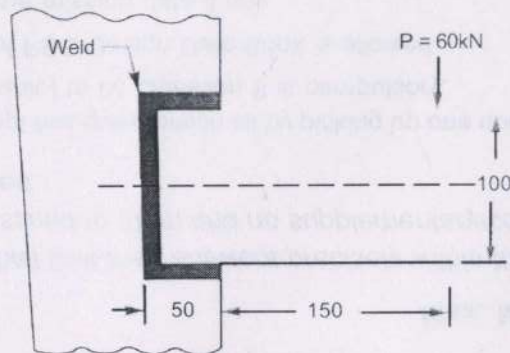

Fig. 4 (Dimensions in mm)
- (b) A rectangular steel plate is welded as a cantilever to a vertical column and supports, a single concentrated load  $P$ , as shown in Fig. 4. Determine the weld size if shear stress in the same is not to exceed 140 MPa. (4+6=10)